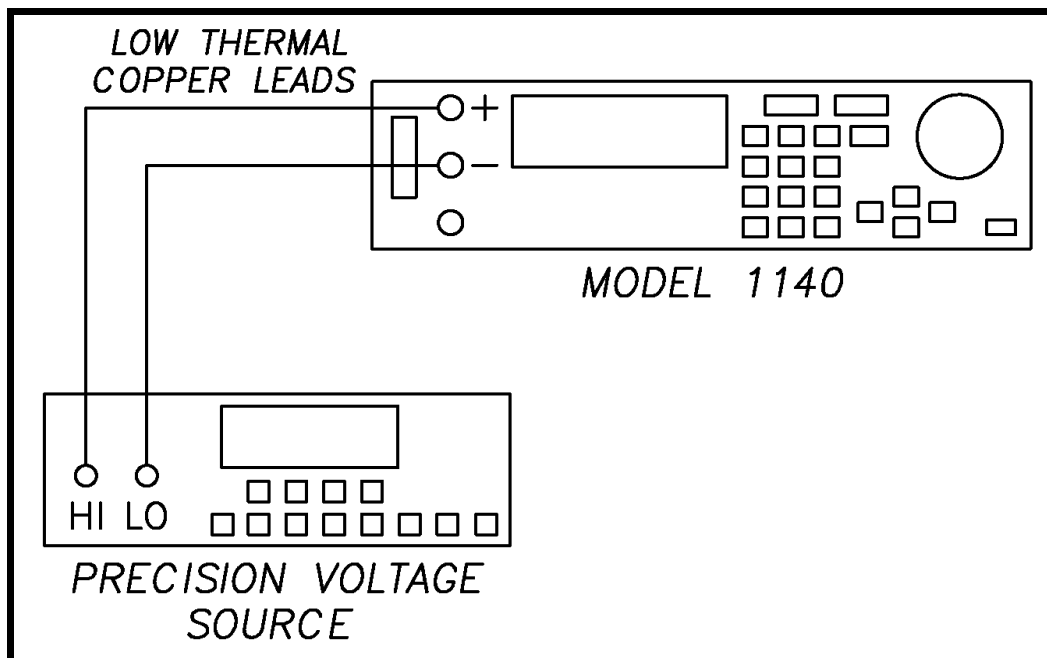

Figure 9-3: Setup for Meter Tests
2. Set the precision voltage source for dc volts and connect it to the Model 1140A as is shown in Figure 9-3 using low-thermal leads.